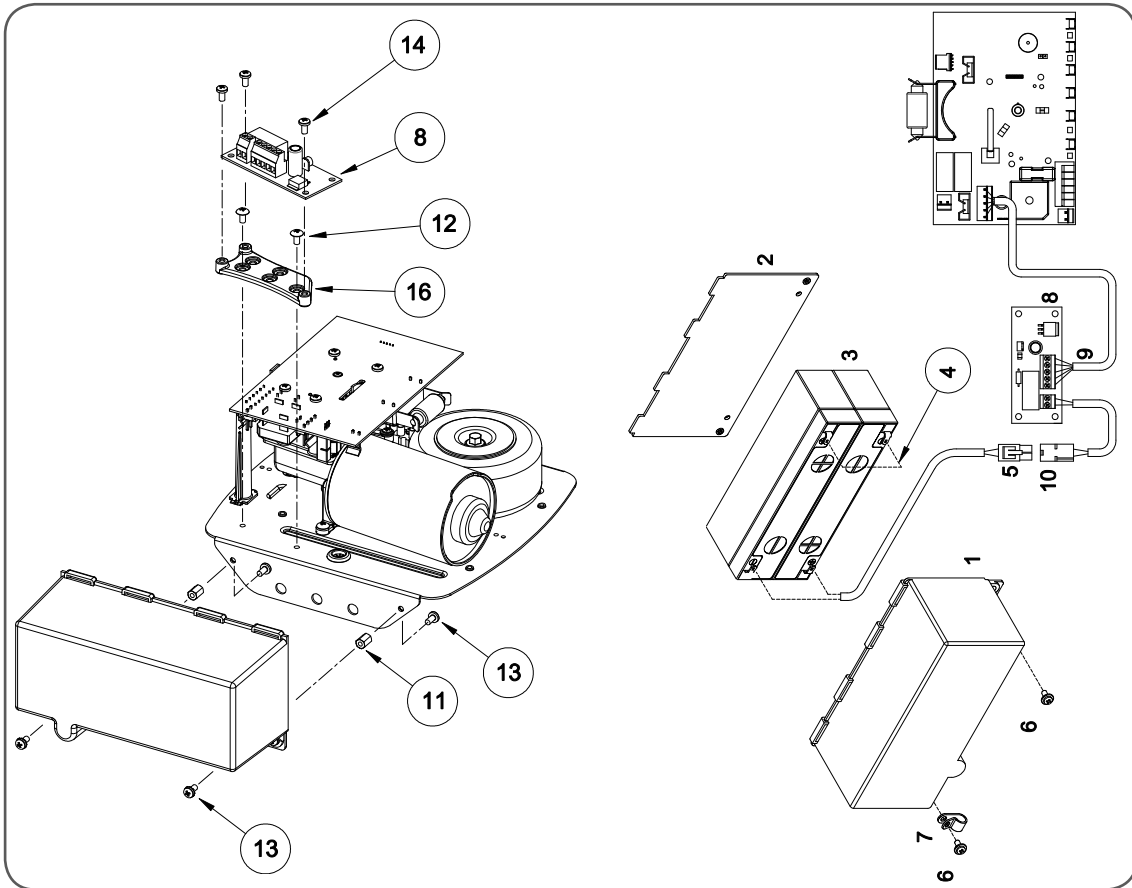

fig 52
- Connect the **red wire** to the Charger Board's "SOLAR+" connector, and the **black wire** to the "-SOLAR" connector (**Fig. 52**).